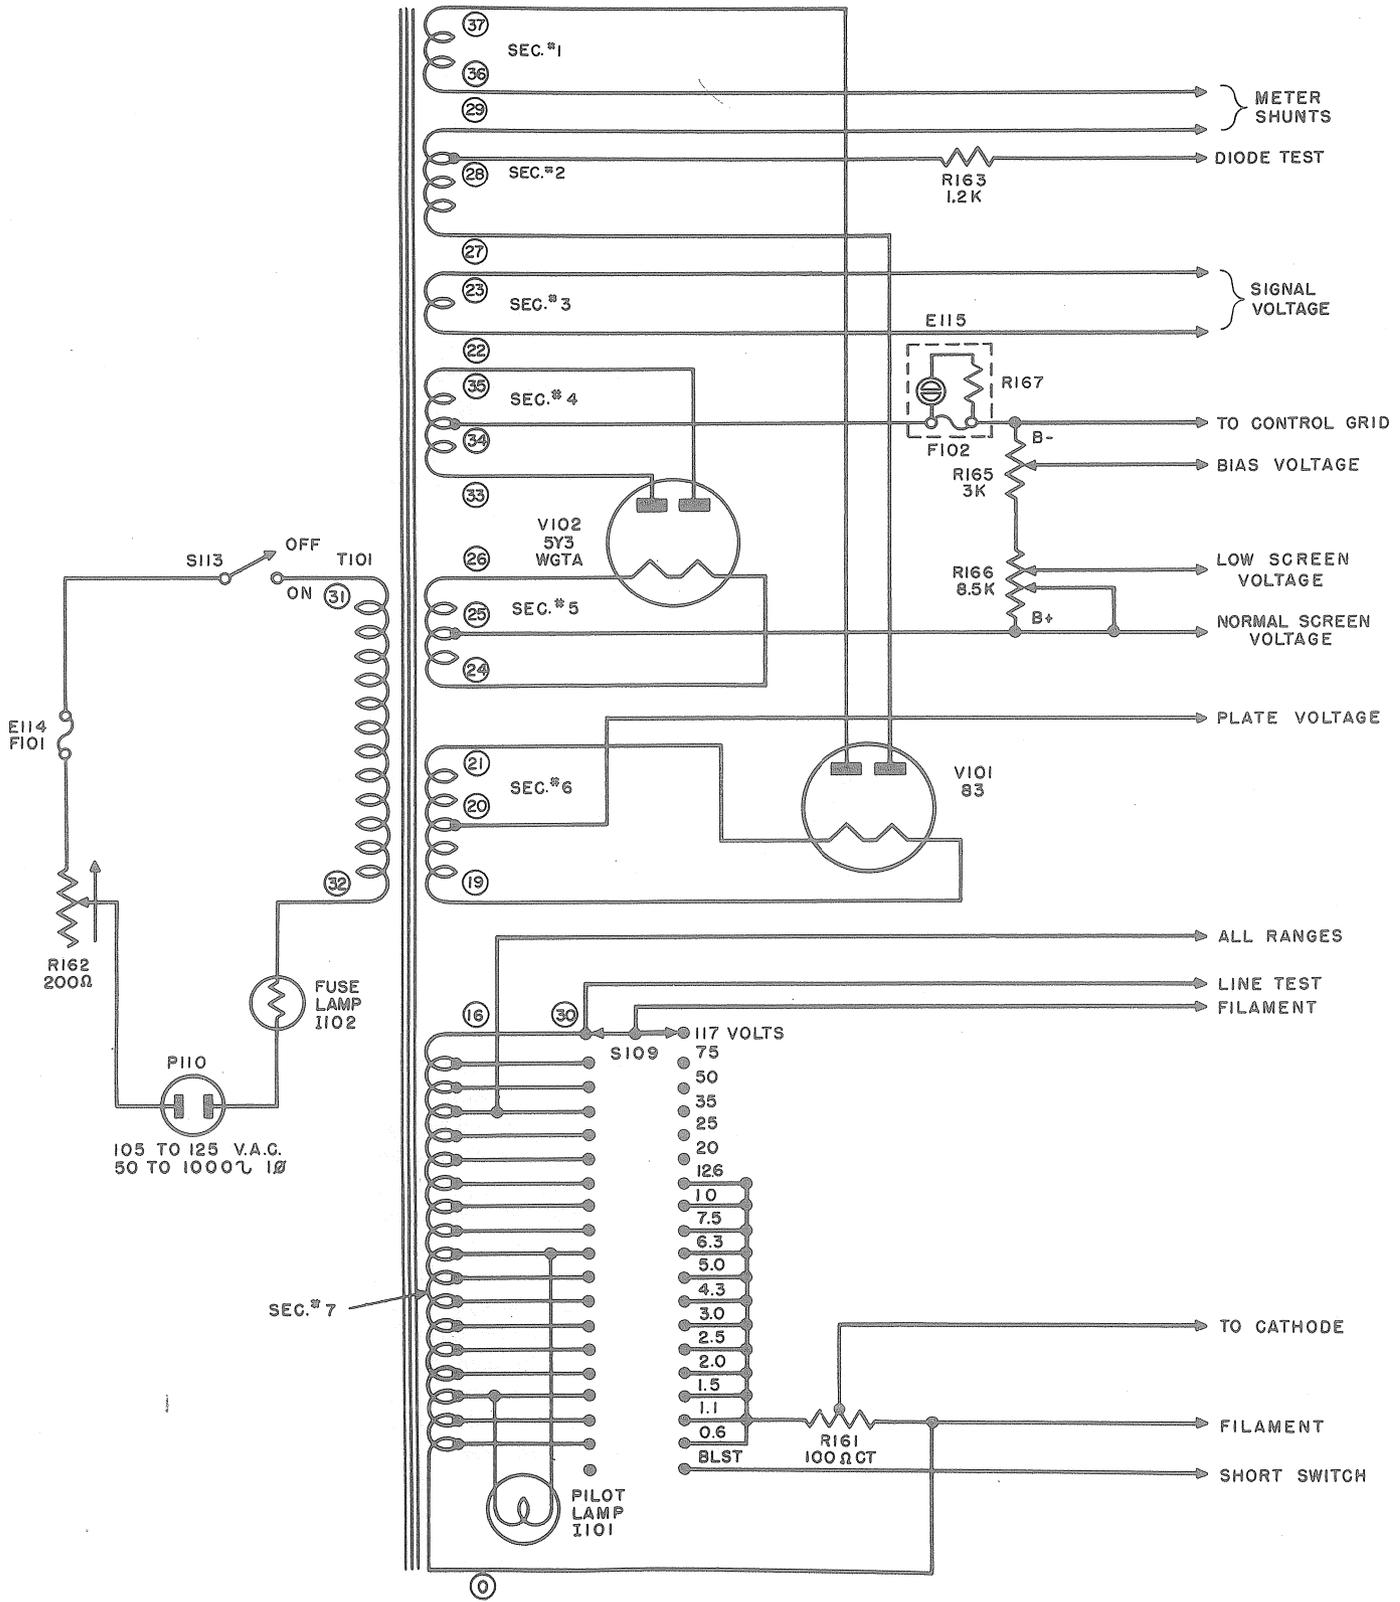

Figure 2-3.—Simplified Power Supply Circuit.
3. POWER SUPPLY. (See Figure 2-3)
b. Secondary #7 of power transformer T-101 consists of a multi-tapped winding designed to supply the various filament or heater voltages for the tubes under test. Voltages shown on figure 2-3 are measured under load. No load voltages will be somewhat higher. For example: no load voltage measured from point 0 to point 30 will be approximately 121 volts with 93 volts on the primary. Secondary #7 also supplies voltage for rectifier emission tests.